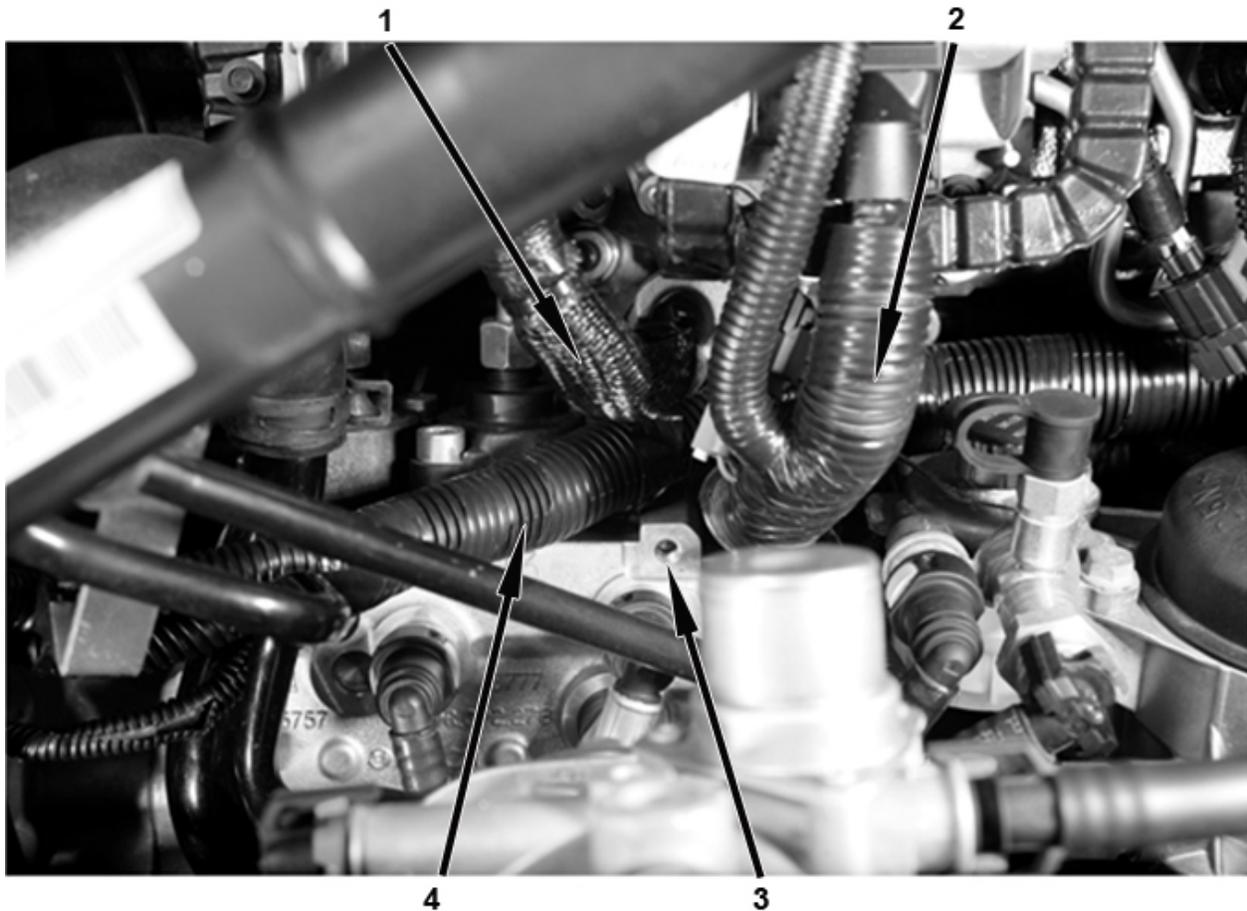
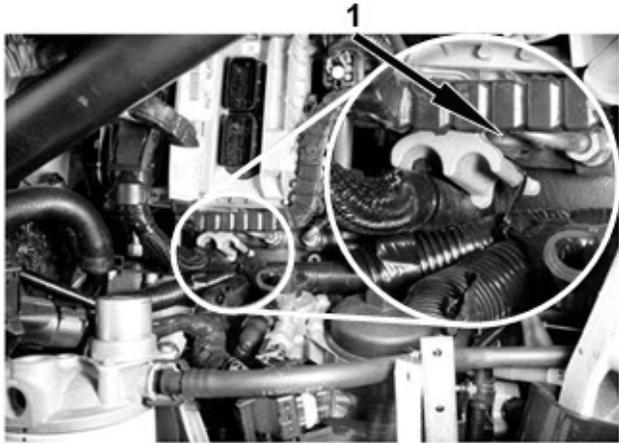

Figure 11
Figure 12
11. Locate and remove existing cable tie strap or straps that secure alternator harness, ECM to sensor harness, and chassis-to-ECM harness onto Bosch strain-relief ECM bracket (Figure 11).
12. Insert a new cable tie strap (306132C1) through Bosch strain-relief ECM bracket, around alternator harness and ECM-to-sensor harness, and tighten cable tie strap enough to lift harnesses off pump screw boss (Figure 11 and Figure 12).